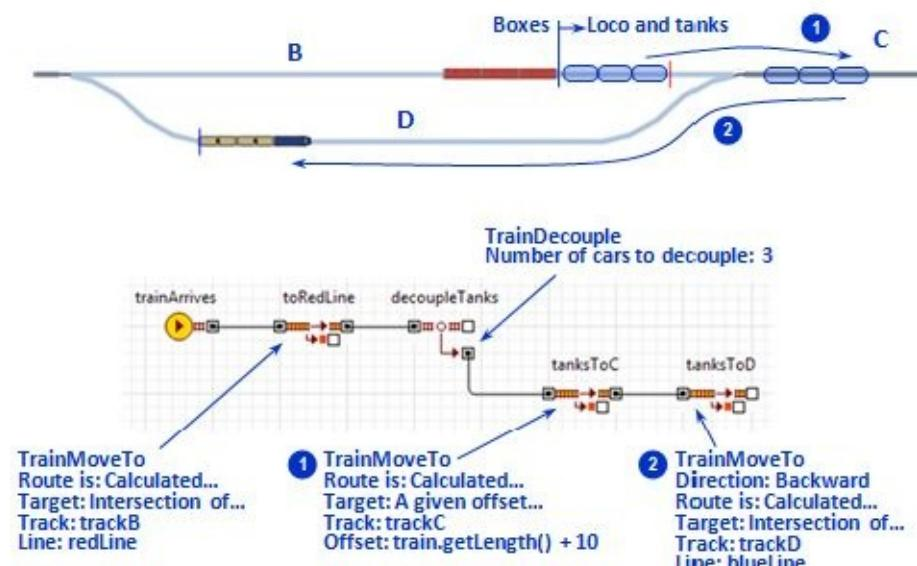

Figure 9.18 The first step of the classification process: tank cars are decoupled and moved to D
13. Open the **Presentation** palette and draw two short vertical lines: *redLine* crossing the *trackB* at X=800, and *blueLine* crossing *trackD* at X=450 (see Figure 9.18).
14. Modify the flowchart as shown in Figure 9.18.